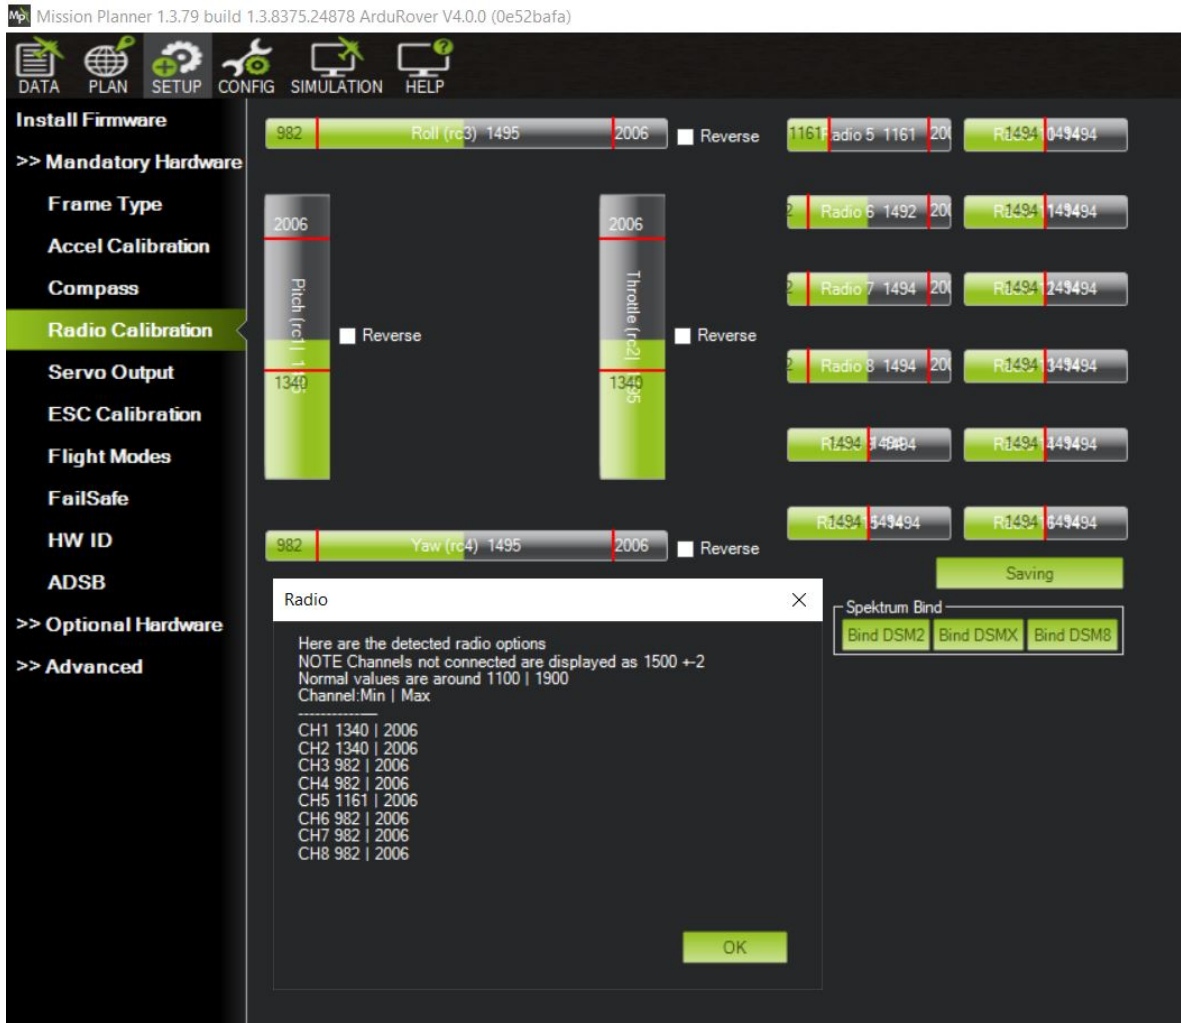

Figure 78: Radio Calibration Verification
13. A page will popup indicating the new min and max values. Press OK. (Refer to Figure 78)